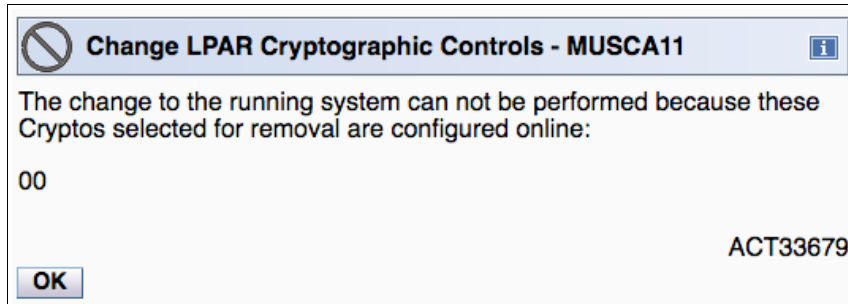

Figure 10-8 SE: Change LPAR Cryptographic Controls: ACT33679
1. Before you change the cryptographic settings by using the Change LPAR Cryptographic Controls task, verify that the cryptographic lists you want to remove from a logical partition are offline (Standby). For more information about setting the cryptographic channel status, see “Configuring a Crypto Express6S online or offline on a logical partition” on page 235. If you try to remove the lists dynamically while they are online, the change fails and you receive the message that is shown in Figure 10-8.